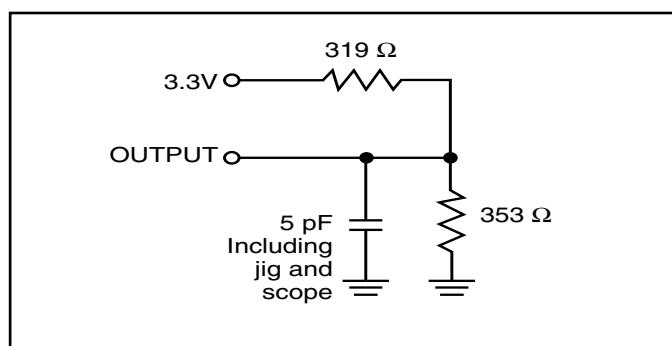

Figure 2.
2. Tested with the load in Figure 2. Transition is measured ±500 mV from steady-state voltage.
2. Tested with the load in Figure 2. Transition is measured ± 500 mV from steady-state voltage. Not 100% tested.
2. Tested with the load in Figure 2. Transition is measured ±500 mV from steady-state voltage. Not 100% tested.